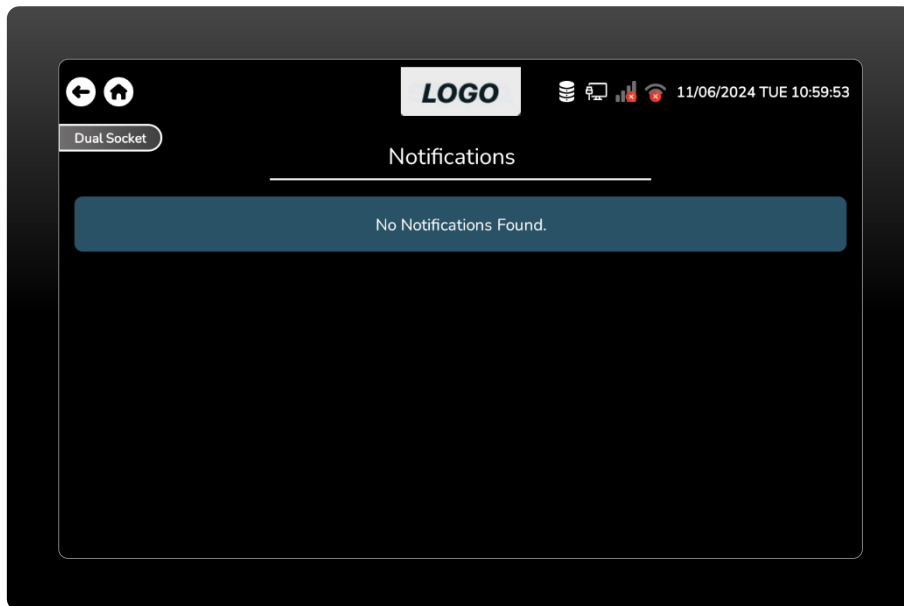

Figure 15 Notification Screen.
- This is the notification screen, where the user can view the notification information. (Figure 15)